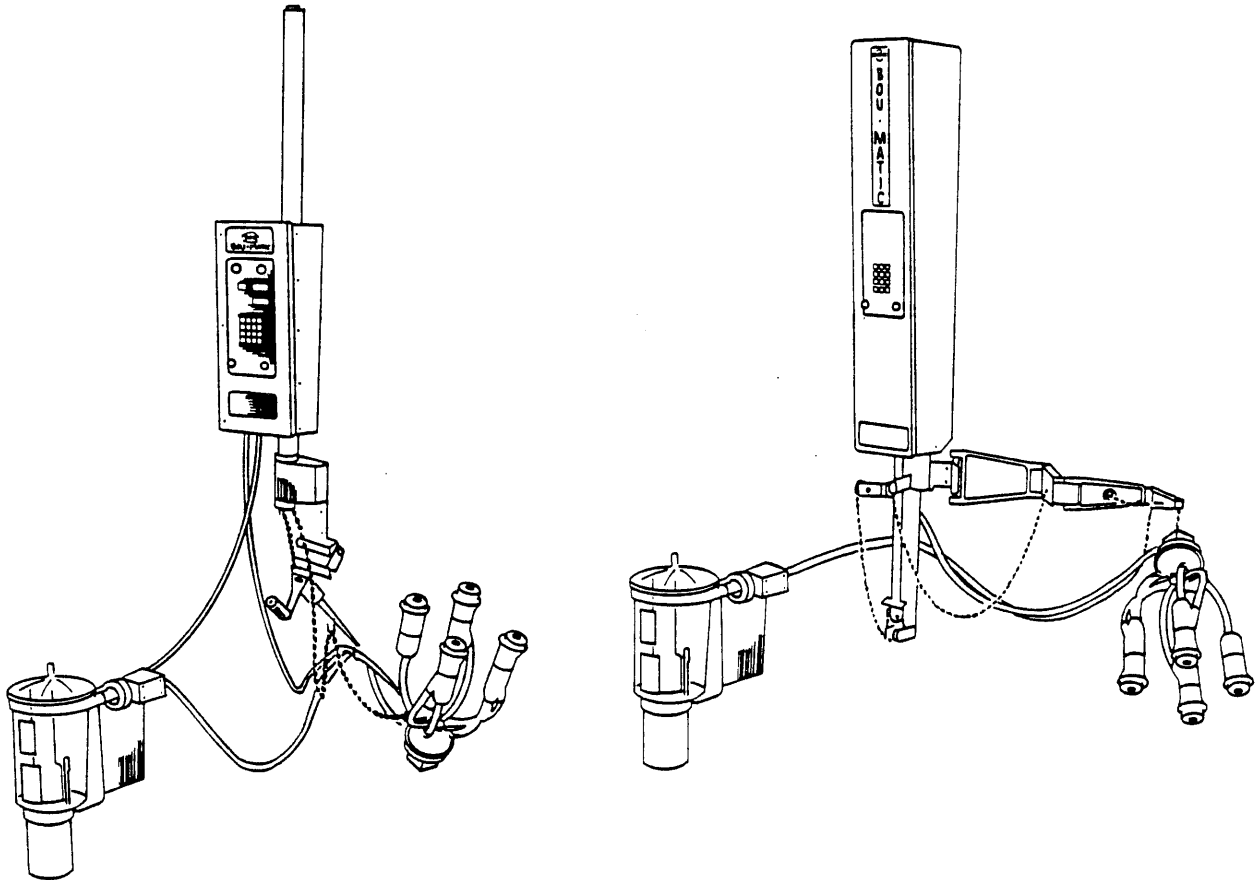

Figure 1. 2100M and 2700M Detachers
1. **Determine which side of the meter the sampler will be mounted to. Then, mount the sampler bracket and meter bracket to the curb, using the fasteners used to mount the meter bracket.** (See Figure 1.) The slots in the sampler bracket should align with those in the meter bracket. Do not tighten the fasteners yet.